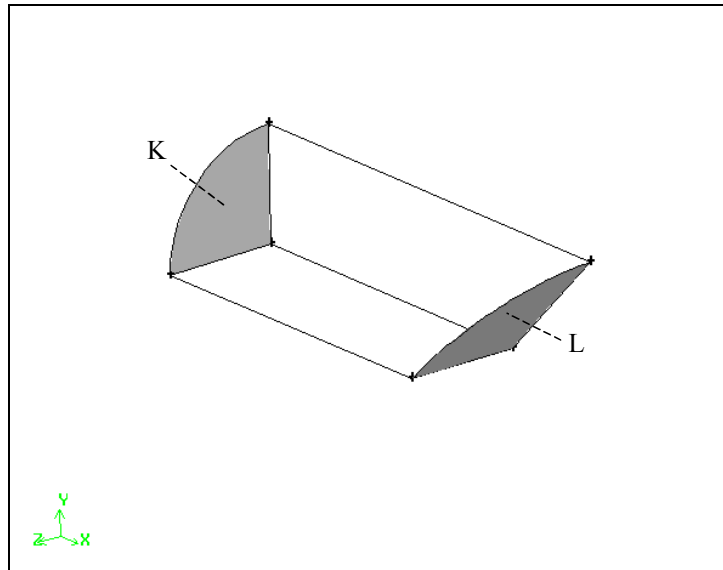

Figure 4-23: Faces to select for first Cooper meshing operation
*The volume to be selected is shown in Figure 4-23.*
- c) Left-click in the **Source** list box (which will turn yellow), and then select the faces marked K and L in Figure 4-23 as the **Source** faces.